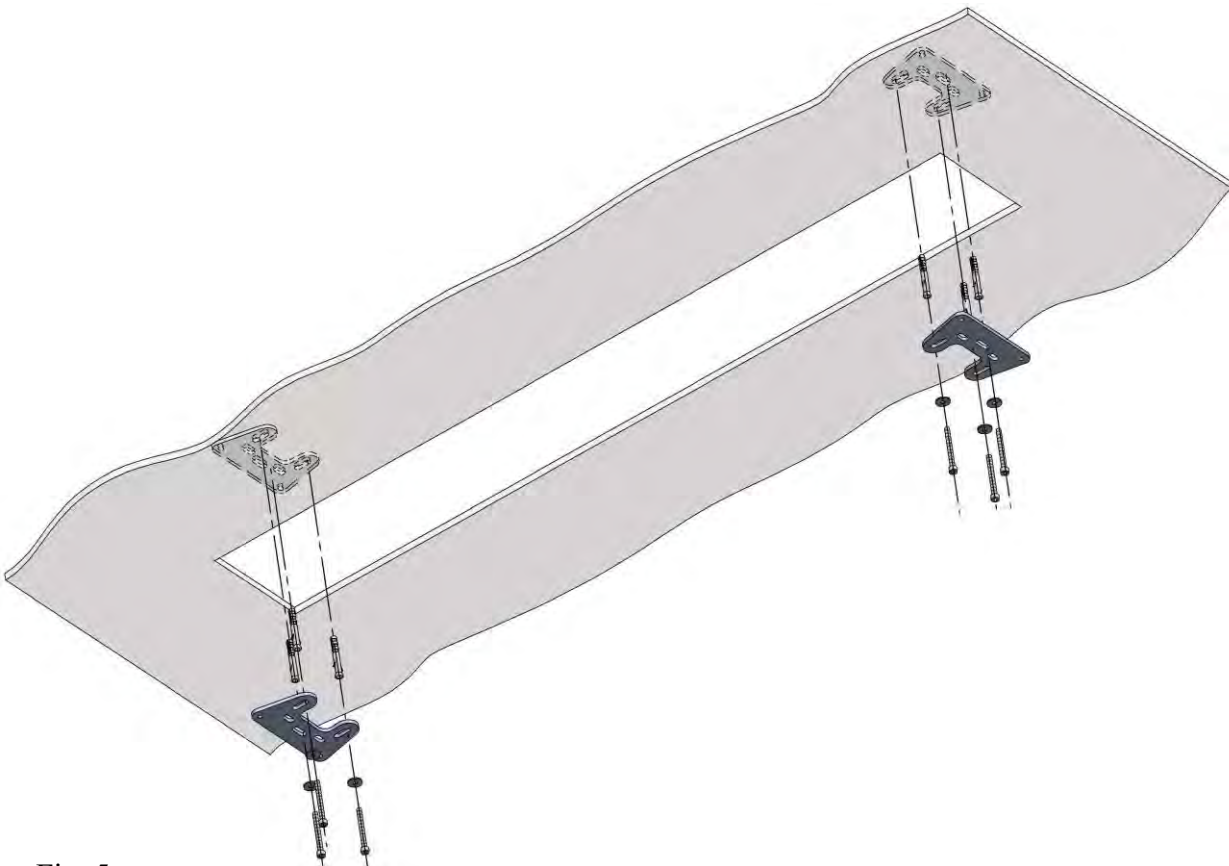

Fig. 5
6. In place of the holes drilled in fixed ceiling, screw the mounting supports using the attached dowels and screws (**Fig.5**).